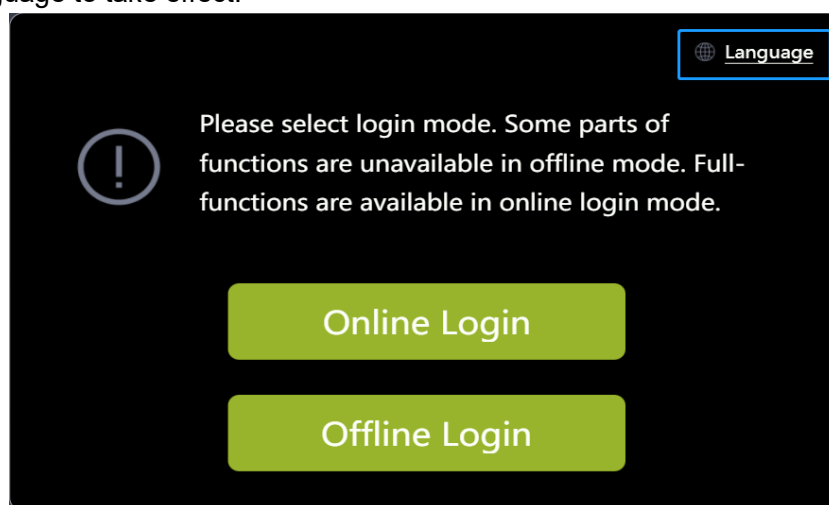
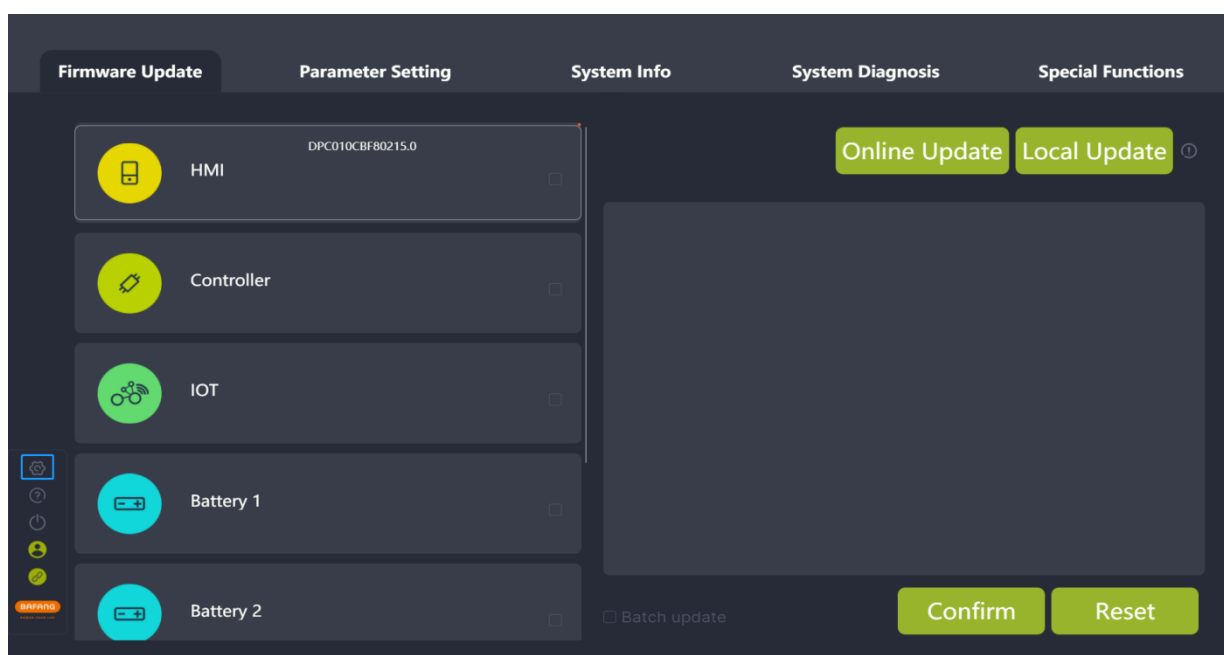

Fig. 9-1 Language
Fig. 9-2 Language
- (1) Set the language in the right corner of the Login interface (as shown in Fig.9-1) or select the “Settings” icon on the left interface (as shown in Fig.9-2).
- (2) Select the desired language in the drop-down list.
- (3) Click the “Restart” icon. Restart the software and the selected language will take effect.